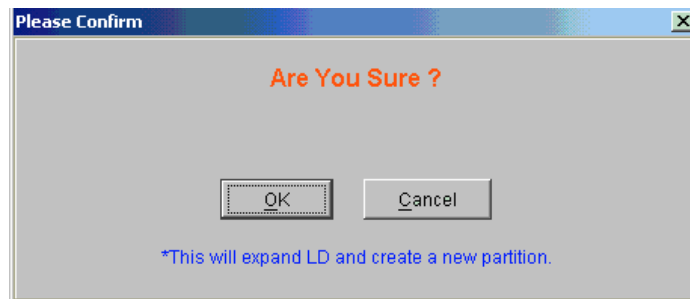

Figure 8-18: Confirm LD Expansion
Step 2. A confirmation window shown in *Figure 8-18* will appear. If you are certain that you want to create the LD with the settings you have selected, click the “**OK**” button.